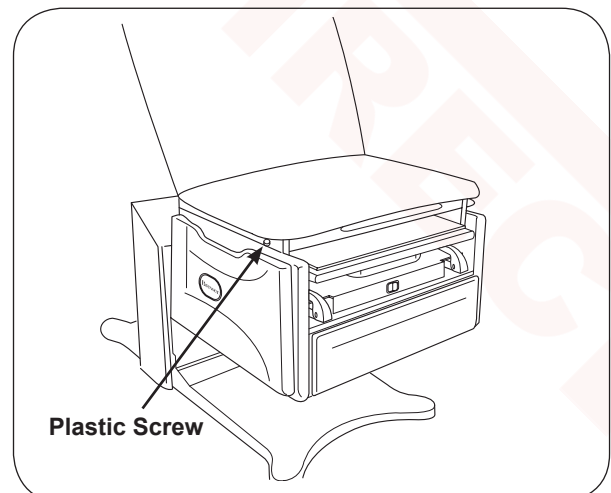

Figure 30. Location of White Plastic Stop Screw
2. Remove the white plastic screw (Figure 30).